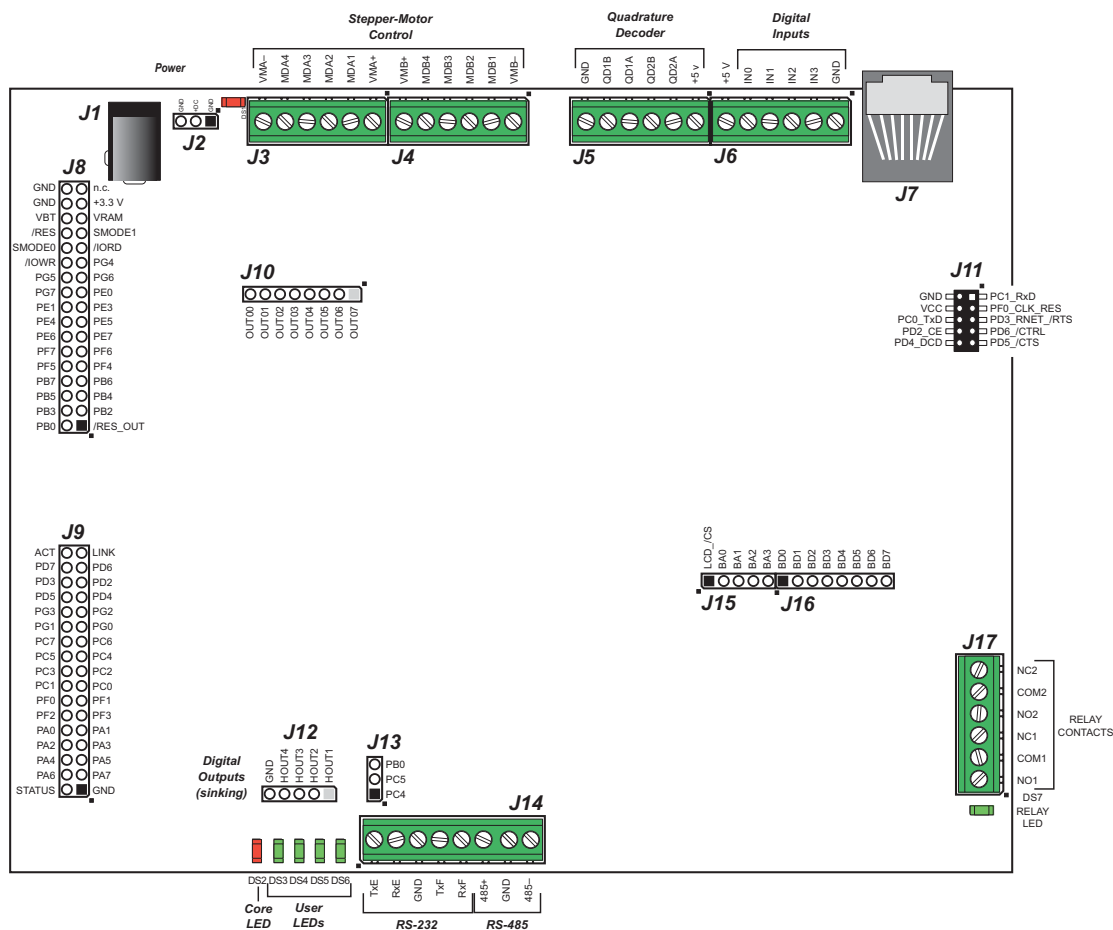

Figure B-4. Prototyping Board Pinout
- **Module Extension Headers**—The complete pin set of the RCM3300/RCM3310 module is duplicated at headers J8 and J9. Developers can solder wires directly into the appropriate holes, or, for more flexible development, 2×17 header strips with a 0.1" pitch can be soldered into place. See Figure B-4 for the header pinouts.
- **Digital I/O**—Four digital inputs are available on screw-terminal header J6. See Figure B-4 for the header pinouts.
- **Quadrature Decoder**—Four quadrature decoder outputs (PF0–PF3) from the Rabbit 3000 chip are available on screw-terminal header J5. See Figure B-4 for the header pinouts.
- **H-Bridge Motor Driver**—Two pairs of H-bridge motor drivers are supported using screw-terminal headers J3 and J4 on the Prototyping Board for stepper-motor control. See Figure B-4 for the header pinouts.
The Prototyping Board pinouts are shown in Figure B-4.